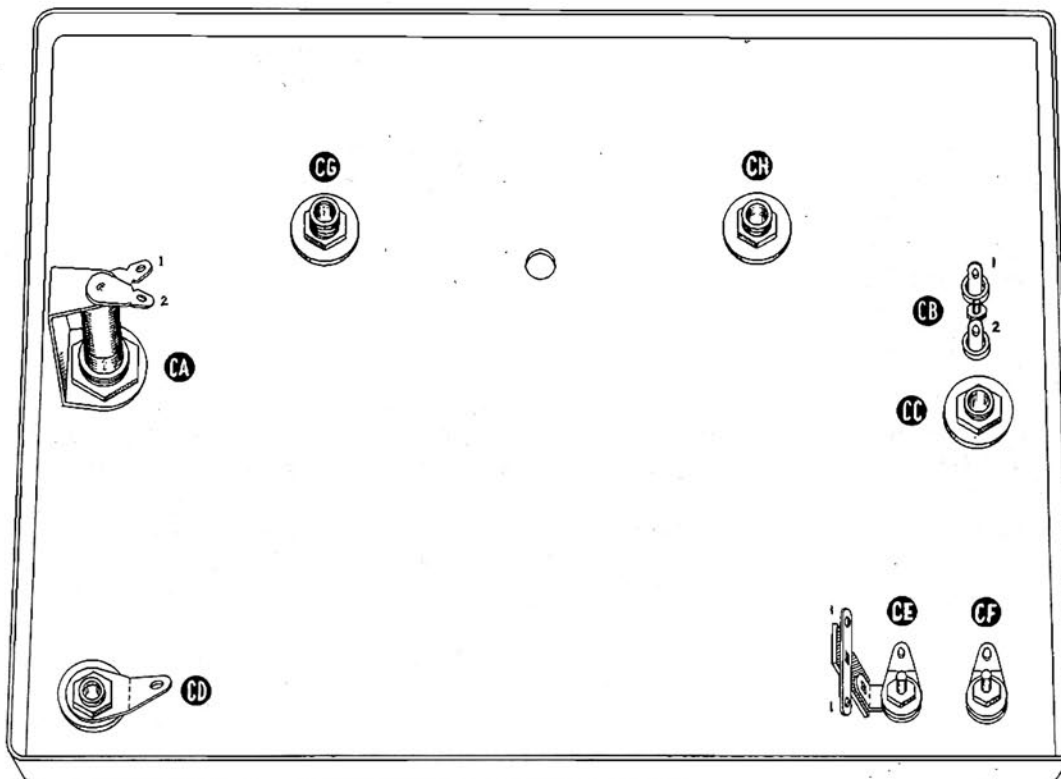

Figure 10
- () 193. Insert a binding post base through a flat fiber washer, hole CE in the panel, a single lug terminal strip and a solder lug. Secure with a 6-32 nut. Orient the parts as shown in Figure 10.